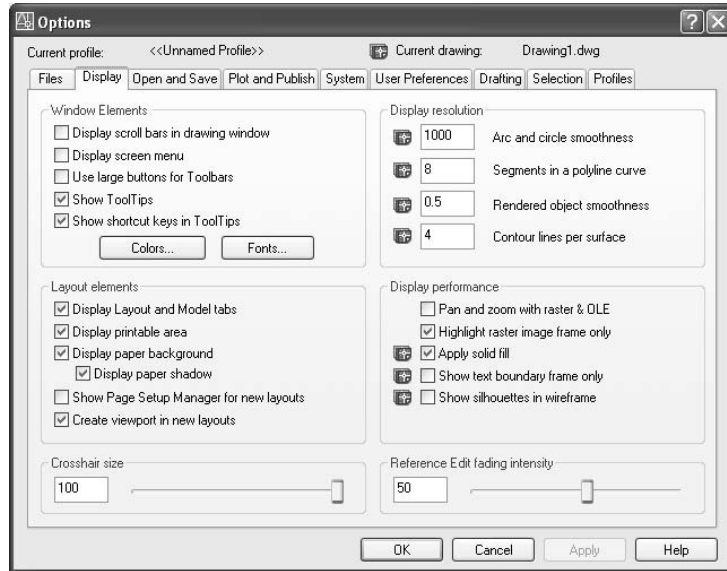

FIGURE 1.4: The Options dialog box open at the Display tab
- Click the Display tab, which is shown in Figure 1.4. Focus on the rectangular area titled Window Elements. If scroll bars are visible on the lower and right edges of the drawing area, the Display Scroll Bars In Drawing Window check box will be checked.